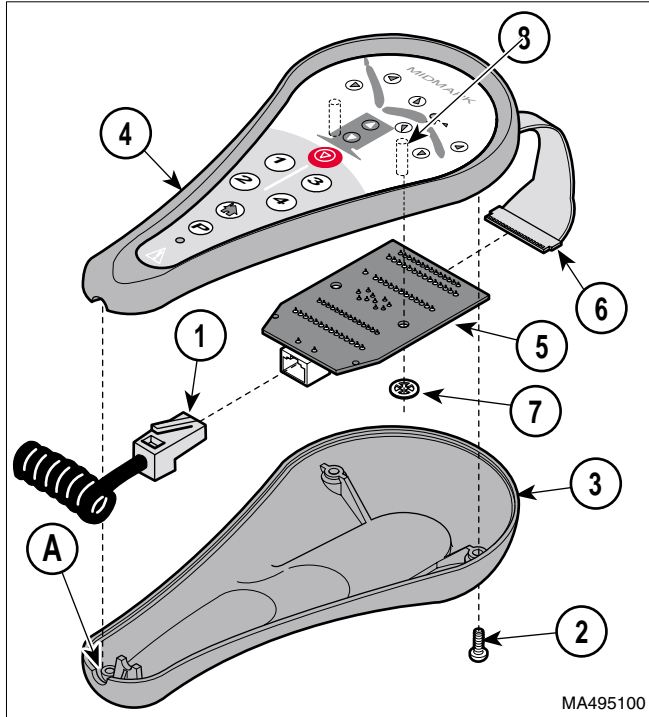

Figure 4-31. Hand Control PC Board Removal / Installation
- (1) Disconnect coil cord (1, Figure 4-31) from table.
- (2) Remove four screws (2) and hand control bottom (3) from hand control top (4).
- (3) Disconnect coil cord (1) from PC board (5).
- (4) Disconnect ribbon connector (6) from PC board (5)